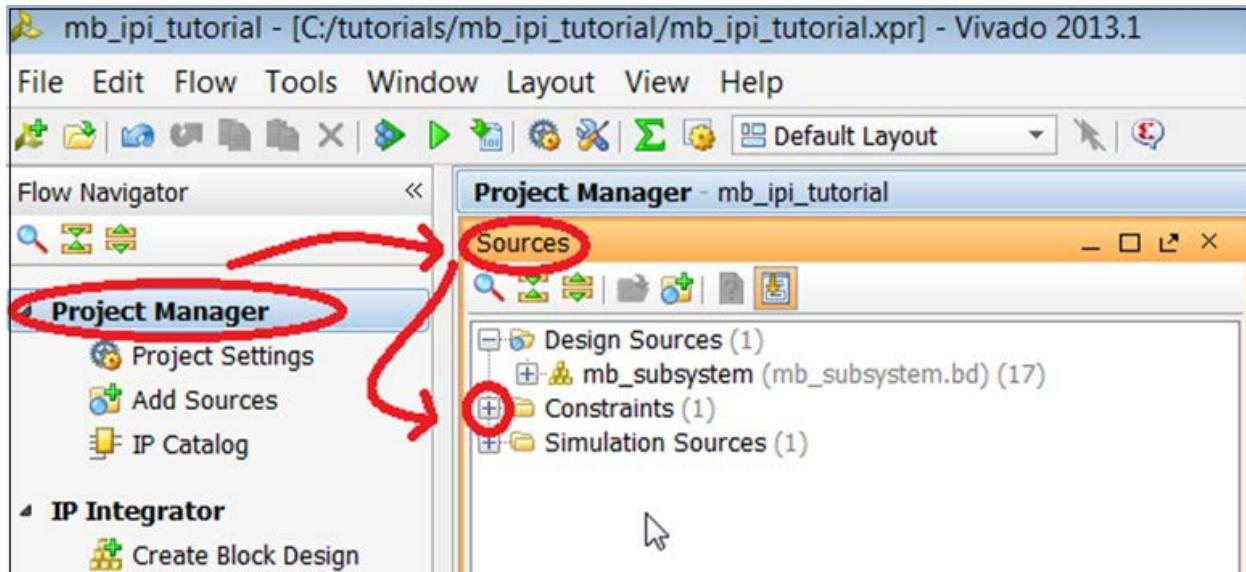

Figure 124: Project Manager
1. In the Flow Navigator, go to the **Project Manager** (Figure 124).